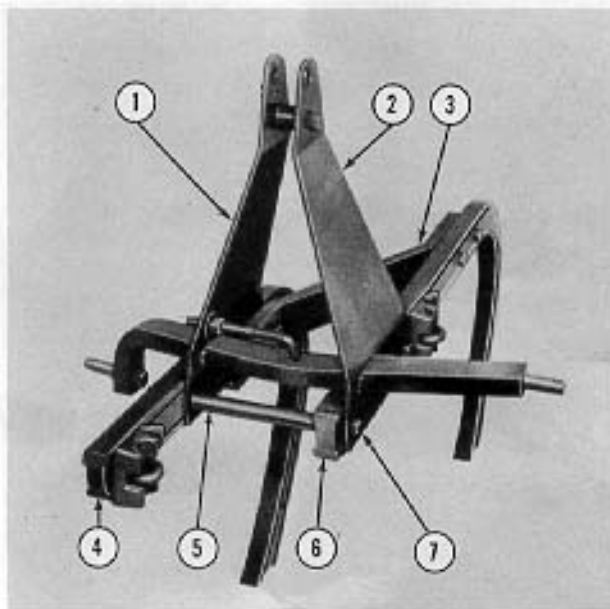

Figure 6
To change from a 12" frame to a 10" frame, attach the right "A" frame member (1), Figure 6, to the left side of the right beam (4) and use the brace (3)*, the tie rod spacer (5)* and the tie rod bolt (7)*. Attach the left "A" frame member (2), on the left side of the beam (6).
- (3), Figure 6, Brace#105146
- (5), Figure 6, Spacer, Tie Rod#105144
- (7), Figure 6, Bolt, Tie Rod#105100